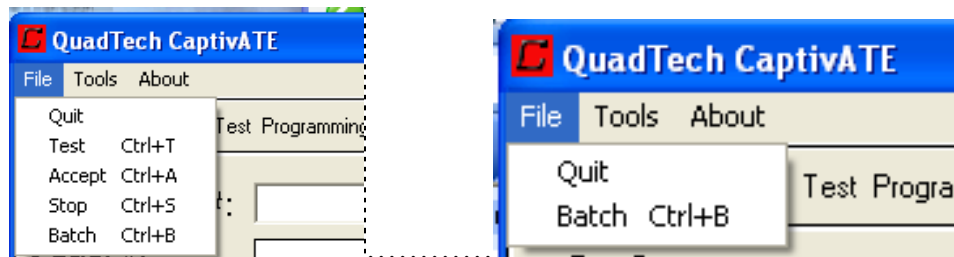

Figure 9 File Menu and Quit Command
2. To close CaptivATE at any time or from any screen, click **File** and then **Quit**, as shown in Figure 9
In Figure 9, the **File** pull-down menu on the left is displayed when you are on the *Testing* screen. From any other screen, the File pull-down menu on the right is displayed.